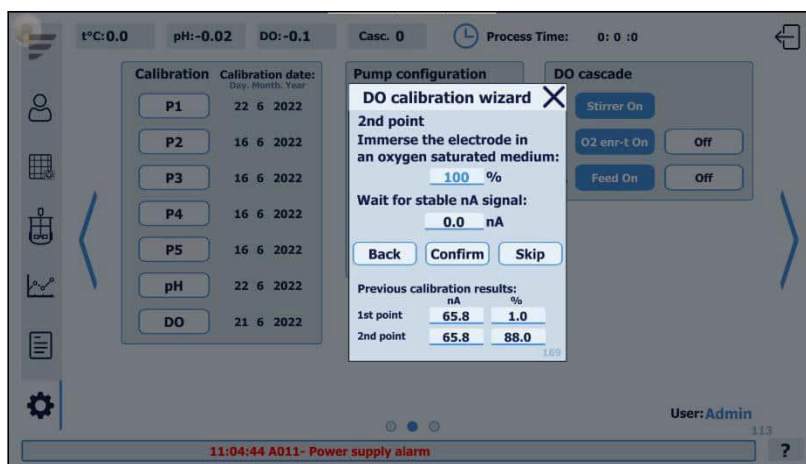

Figure 12.5. pO₂ two point calibration wizard (second step)
- 5) Press Confirm, this will bring up the next calibration wizard with instructions saying to immerse the electrode in an oxygen-saturated environment (100 % point calibration), see Figure 12.5.